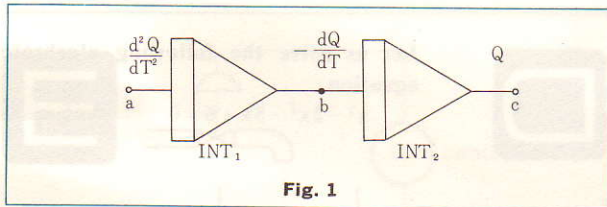

Fig. 1
Now we will illustrate by block diagrams (Figs. 1~3) how to solve the equation (9) by the combination of computing elements.
Every time the input signal passes through one computing element, the sign is inverted, and the voltages at points b and c bring about the relation illustrated in Fig. 1.